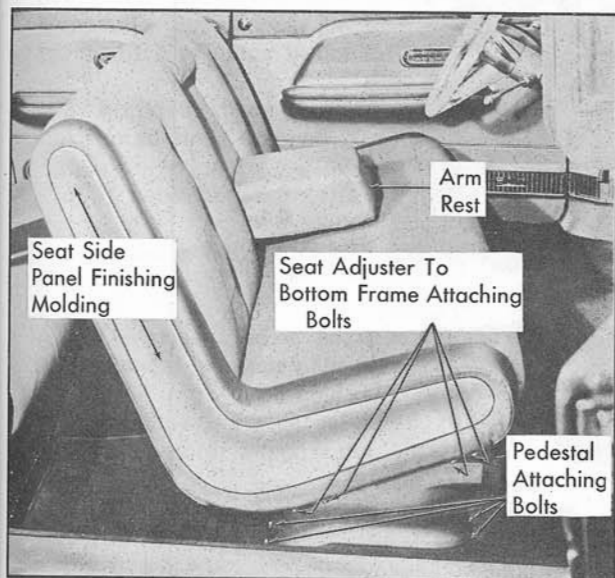

Fig. 17-46 Front Seat Installation
NOTE: The seat frame assembly is secured to the seat adjusters with four attaching bolts at each adjuster. Each adjuster is riveted to a pedestal which is secured to the body floor pan with four bolts, Fig. 17-46. The seat assembly may be removed from the adjusters, or the complete seat assembly with the adjusters and pedestal may be removed from the body as outlined:
3. To remove seat frame from adjusters, remove seat cushion; then remove four bolts securing each seat adjuster to seat bottom frame, Fig. 17-46. Suitably identify wiring for proper installation; then disconnect seat harness wiring from control relay and seat actuator motors, and remove frame assembly.
(73) Front Seat Assembly Removal and Installation (With Adjusters and Pedestal)
NOTE: The lower track of each seat adjuster assembly is secured to the pedestal with two rivets; therefore, when removing the seat assembly with adjusters from the body, it is necessary to also remove the pedestal which is secured to the floor pan with four bolts at each side of the seat, Fig. 17-46.